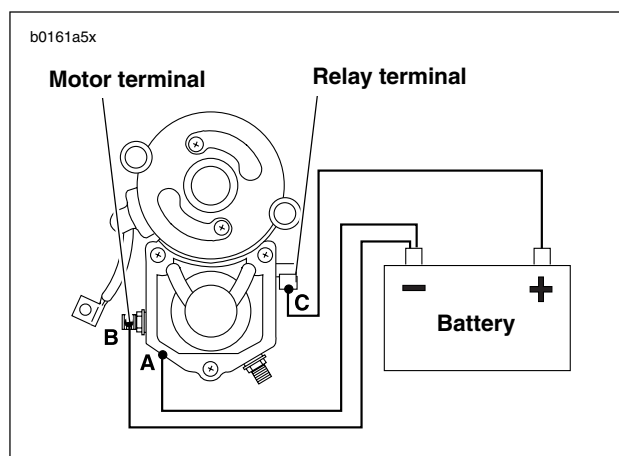

Figure 5-11. Pull-In Test
Do not disassemble solenoid. Before testing, disconnect field wire from motor terminal as shown in Figure 5-11.
- See Figure 5-11. Using a 12 volt battery, connect three separate test leads as follows: